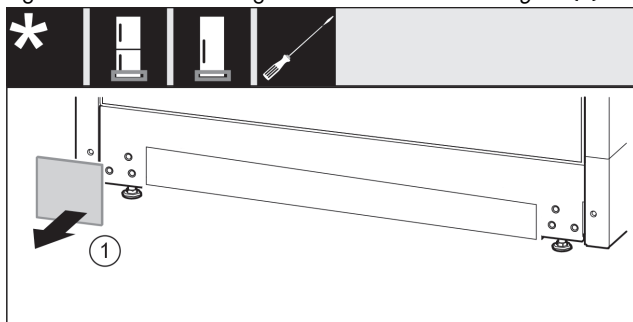

Fig. 12
- ▶ Take off the cover. *Fig. 12 (1)*